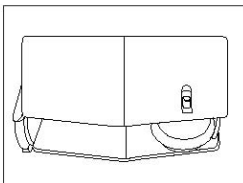

Figure 1
3. Apply a triangular bead of IPA Impact Protection Adhesive, and tool as needed to form an acceptable finish. Refer to Figure 1. Read and follow all product information and installation instructions provided by 3M Company. We recommend you start in a corner and apply the sealant bead out approximately 6". Then turn the gun and push the sealant bead to the next corner where the same method is repeated. Pushing the sealant bead will insure proper penetration and minimize the chances of air gaps in the bead. Pulling the gun can also be done if confident no air gaps are formed.